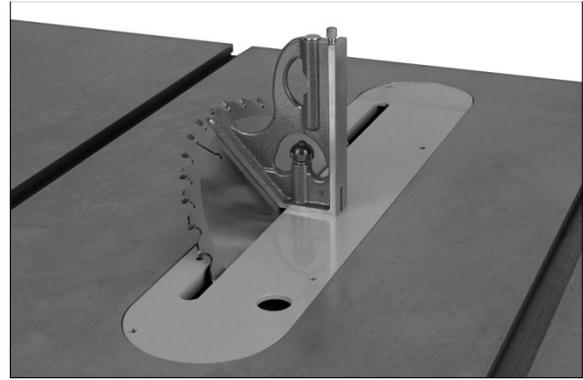
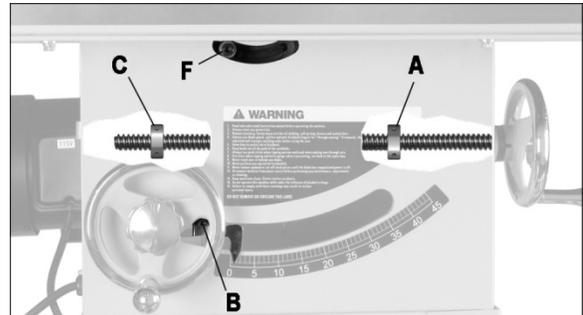

Figure 24
Figure 25
5. If adjustment is required, loosen the two setscrews on 90° stop collar (A, Figure 25 – 3mm hex key) and rotate collar along the lead screw to needed position. Verify the new setting.
6. Loosen screw on pointer (B, Figure 25), and adjust pointer to zero. Retighten screw.
Repeat steps 1 through 4 above for 45° setting, as shown in Figure 24. The 45° stop is shown at C, Figure 25.
If backlash develops in the trunnion assembly, it can be adjusted out using the screws (6mm hex key) at front and back of cabinet (F, Figure 25 shows front screw). Front and rear trunnions should receive the same amount of spring tension from the screws.